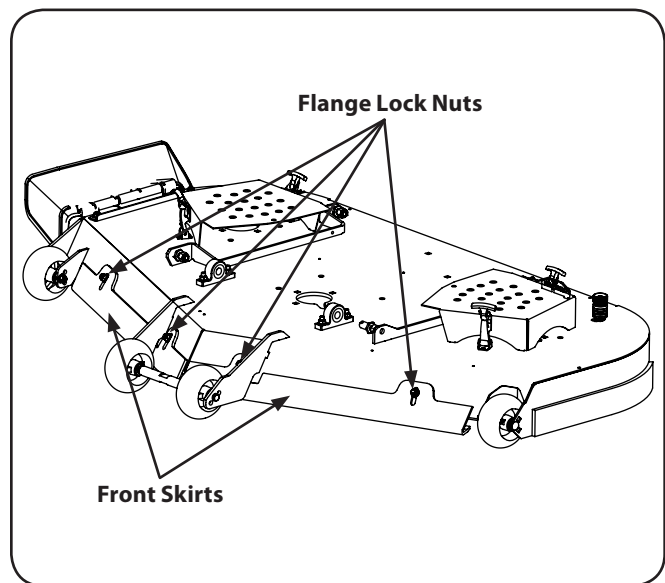

Figure 6-9
1. Loosen — but do not remove — the nuts securing the skirt, place in the proper position and then retighten the nut. See Fig. 6-9.